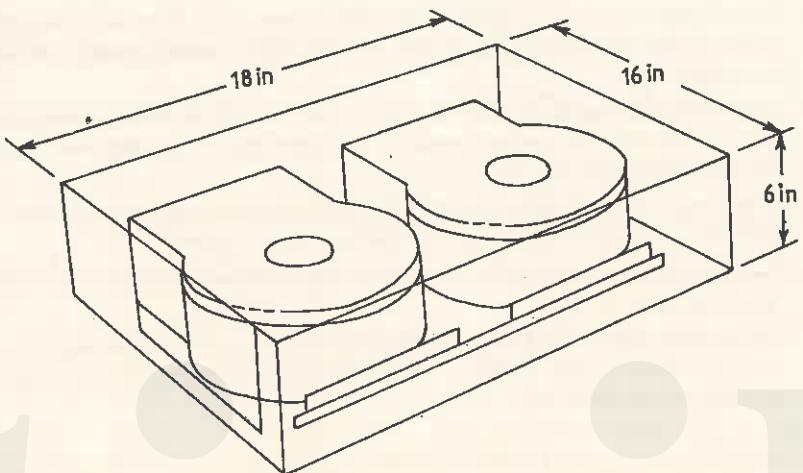

Fig. 36.14. A Winchester disk drive.
(6) Winchester disk
- Winchester disks are hermetically sealed units, in which the read/write heads are designed to take off and land on the disc surface (Fig. 36.14). The disc is coated with a special lubricant which reduces the friction when the heads land and the sealed chamber prevents contamination from dust etc.